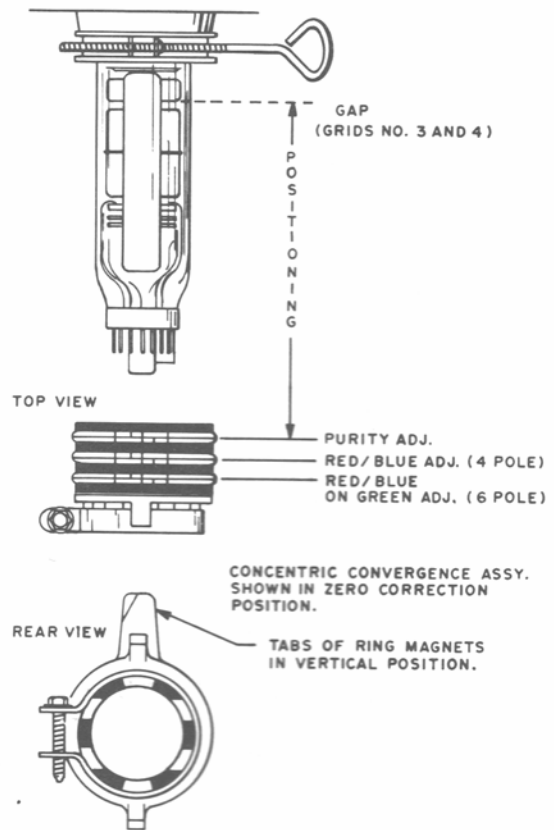

FIGURE 6
**NOTE:** Replacing the picture tube will require checking adjustments for purity, convergence and white balance. Readjustments may be required. Refer to pages 11 through 12 and Figures 6 through 9.
With yoke on CRT neck, set convergence assembly on CRT neck with the center line (of Purity Adjustment Magnet) over gap between grids No. 3 and No. 4. The convergence assembly consists of 3 sets of ring magnets with tabs (Figure 6).
Tabs of the 3 magnetic ring-pairs are to be in a vertical position which will produce a zero-correction state and facilitate adjustments (Figure 6).
2. A pair of 4-Pole Convergence Magnets is provided and adjusted to converge the blue and red beams (Figure 6). When the Pole opens to the left and right 45° symmetrically, the magnetic field maximizes. Red and blue beams move to the left and right. Variation of the angle between the tabs adjusts the convergence of red and blue vertical lines.
4. A pair of 6-Pole Convergence Magnets is also provided and adjusted to converge the magenta (red + blue) to green beams (Figure 6). When the Pole opens to the left and right 30° symmetrically, the magnetic field is maximized. Red and blue beams both move to the left and right. Variation of the opening angle adjusts the convergence of magenta to green vertical lines.